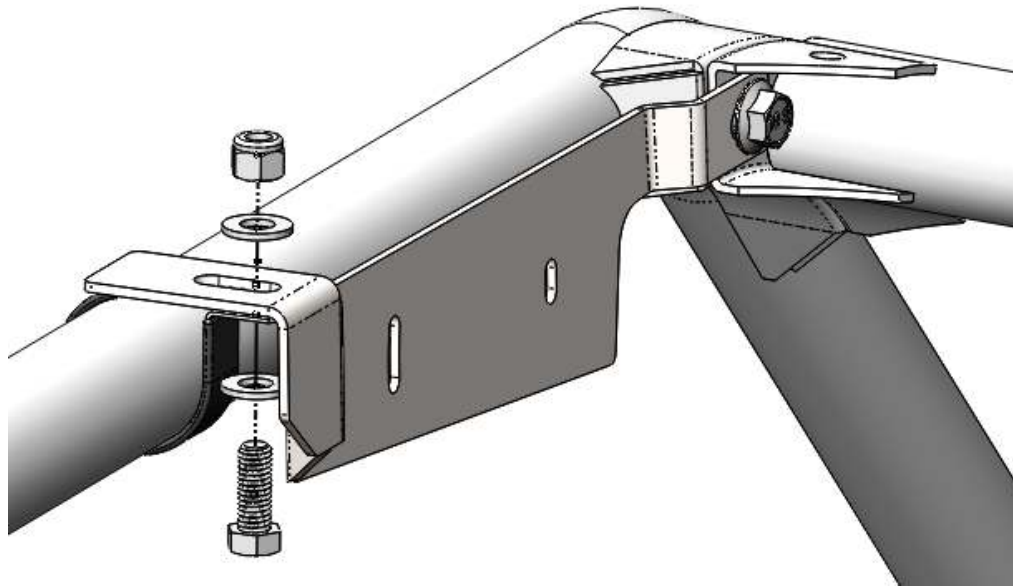

Figure 6: Hardware for mounting the loop clamps to the brackets.
5. Use the supplied 3/8"-16 x 1" bolts, washers, and nylock nuts to secure the loop clamp to the mounting bracket. Tighten both the loop clamp bolt and the front cross member bolt to secure to bracket to the roll cage. See Figure 6.